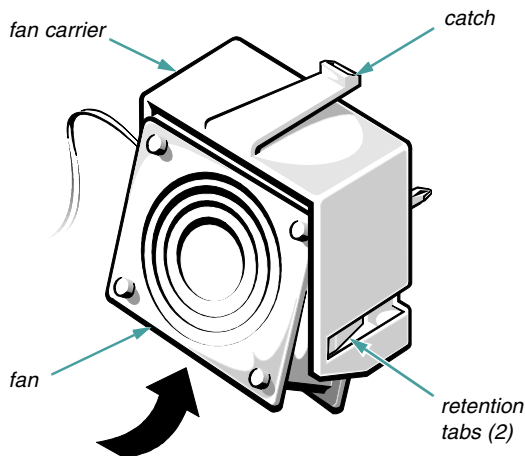

Figure 7-8. Replacing a Cooling Fan
4. Depress the catch on the fan carrier (see Figure 7-8) and remove the fan carrier from the chassis.
5. Remove the cooling fan from the fan carrier by releasing the two fan retention tabs inside the carrier (see Figure 7-8).